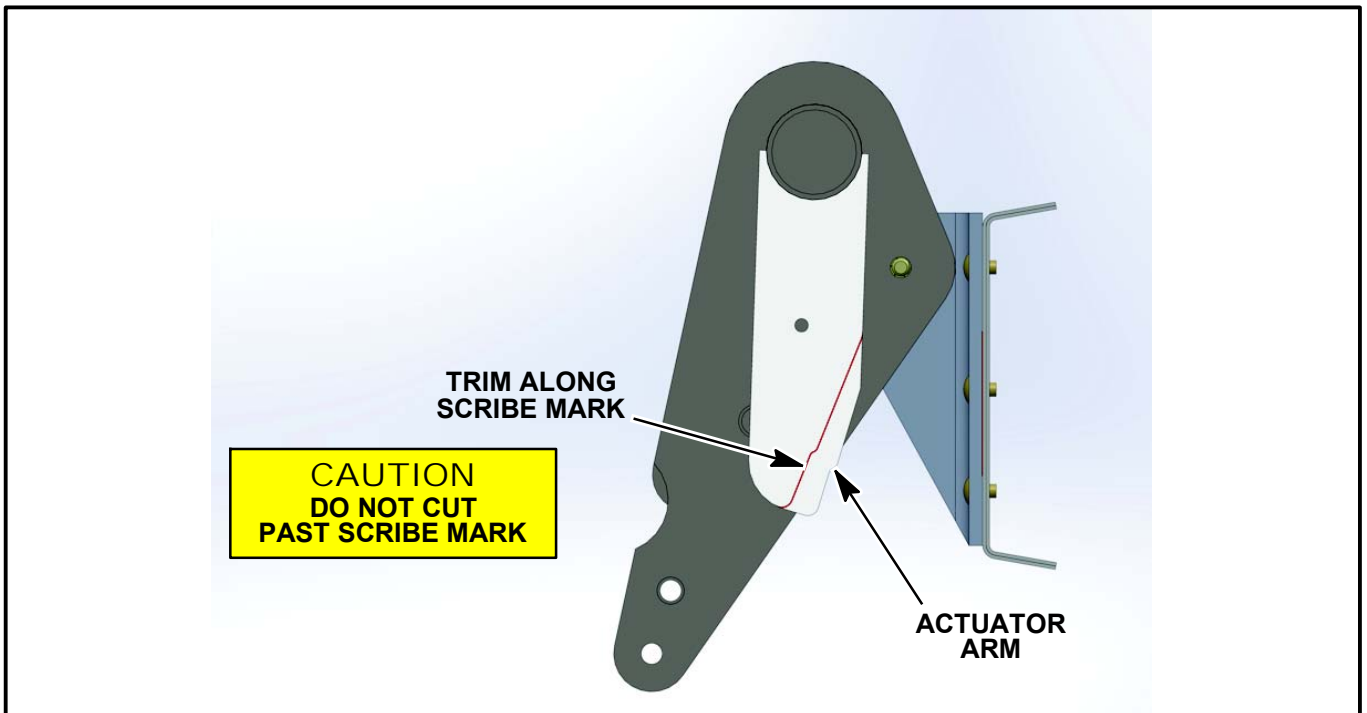

Figure SIM20-142-13 - TRIM MARK ON ACTUATOR ARM
- 1.14. Remove the template 750093-023, exposing the new template mark. (Refer to Figure SIM20-142-13.)